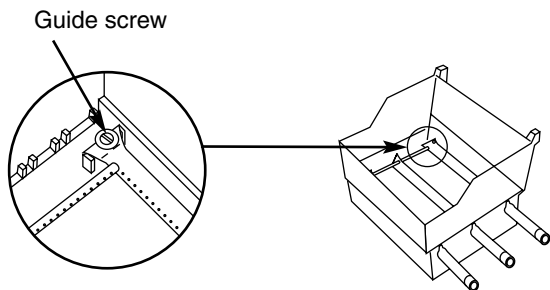

Figure 16
- f) Slide the burner assembly out from under the guide screw and washer in the corners of the cooking box. Figure 16.